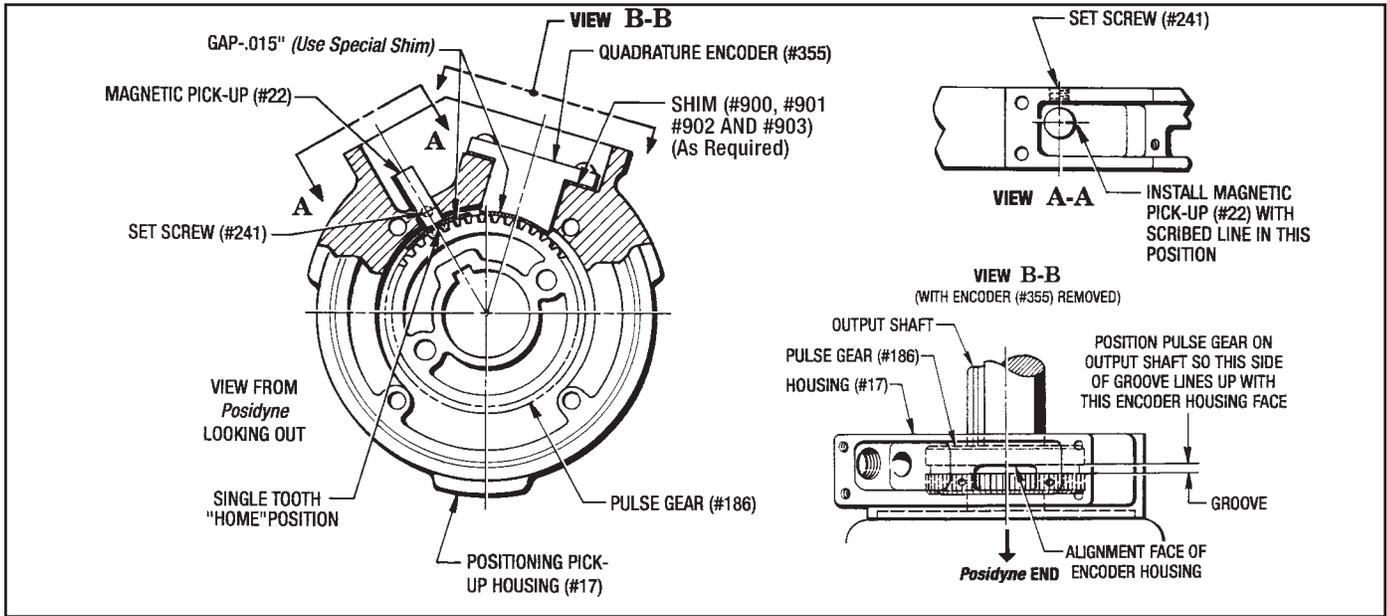

Figure 6.6 - Position Sensors Installation
2. Attach the Encoder Housing (#17) to the output housing with (4) Screws (#76) and (4) Washers (#257).
3. Slide the Pulse Gear (#186) on to the output shaft, aligning the groove in the pulse gear with the alignment face of the encoder housing, as shown in View B-B in Figure 6.6. Tighten Set Screw (#154).
4. Attach the Top Cover (#372) with (4) Screws (#225) and the Front Cover (#253) with (4) Screws (#268).
3. Check the Gap between the Pulse Gear and the Encoder with the Special .015" Shim that you made. If necessary, remove the Encoder and place Shims (#214) under the Encoder. (Usually .015" is sufficient.) Re-attach the Encoder and re-check the Gap. (See Figure 6.6)
(See Figure 6.6)
2. Insert the Magnetic Pick-Up Sensor (#22) into the hole with the **Scribed Line** in position as shown in Figure 6.6, View A-A.